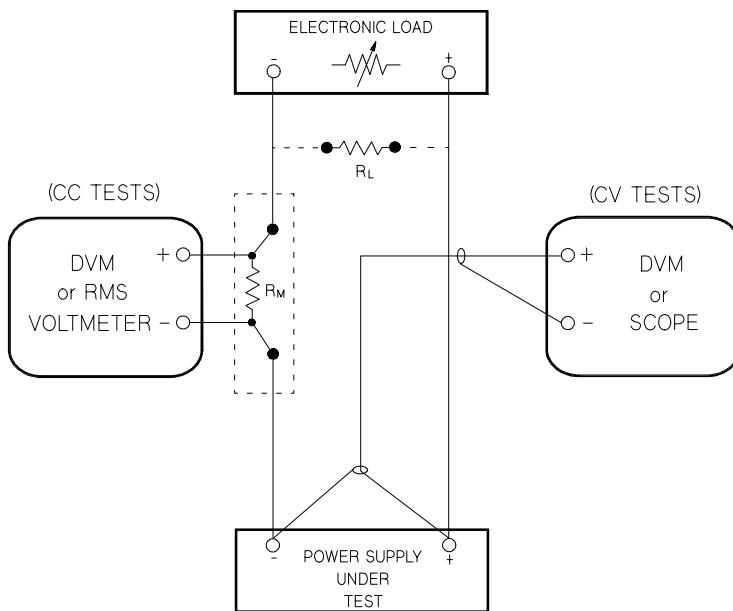
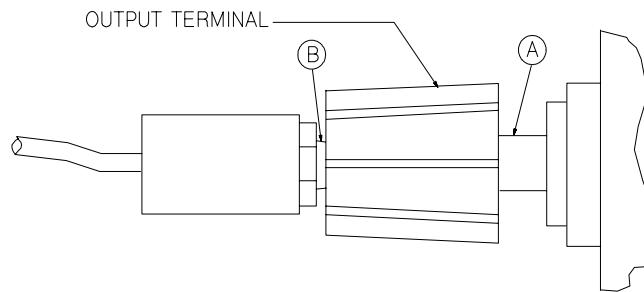

Figure 3-1. Performance Verification Test Setup
Figure 3-2. Front Panel Terminal Connections (Side View)
To eliminate output current measurement error caused by the voltage drops in the leads and connections, connect the current monitoring resistor between the (-) output terminal and the load as a four-terminal device. Connect the current-monitoring leads inside the load-lead connections directly at the monitoring points on the resistor element (see R_M in Figure 3-1).
- 1 Turn off the power supply and connect a digital voltmeter between the (+) and (-) terminals of the output to be tested as shown in Figure 3-1.
- 1 Turn off the power supply and connect a digital voltmeter between the (+) and (-) terminals of the output as shown in Figure 3-1.
- 4 Operate the electronic load in open mode (input off). Record the output voltage reading on the digital voltmeter again. The difference between the digital voltmeter readings in steps (3) and (4) is the CV load regulation. The difference of the readings should be within the limit of (4 mV)* or (7 mV)**.
- 6 Adjust the transformer to high line voltage (127 Vac for nominal 115 Vac, 110 Vac for nominal 100 Vac, or 253 Vac for nominal 230 Vac). Record the voltage reading on the digital voltmeter. The difference between the digital voltmeter readings in steps (5) and (6) is the CV line regulation. The difference of the readings should be within the limit of (4 mV)* or (7 mV)**.
When measuring Vrms ripple and noise, the monitoring device should be plugged into the front of the terminals at (B) in Figure 3-2. Use the coaxial cable and BNC female to banana plug adapter to connect the monitor device to the power supply. To reduce the measurement error caused by common mode noise, it is recommended that you use a common mode choke between the cable and the BNC adapter. The common mode choke is constructed by inserting coaxial cable into Ferrite Toroidal core. The load resistor should be connected to the terminal at (A) in Figure 3-2. Twisted leads between the load resistor and the power supply helps reduce noise pickup for these measurements.
- 1 Turn off the power supply and connect the output to be tested as shown in Figure 3-1 to an oscilloscope (ac coupled) between (+) and (-) terminals. Set the oscilloscope to AC mode and bandwidth limit to 20 MHz. Connect a resistive load (2.0Ω)* or (12.5Ω)** to the terminal at (A) in Figure 3-2.
- 1 Turn off the power supply and connect the output to be tested as shown in Figure 3-1 with an oscilloscope. Operate the electronic load in constant current mode.